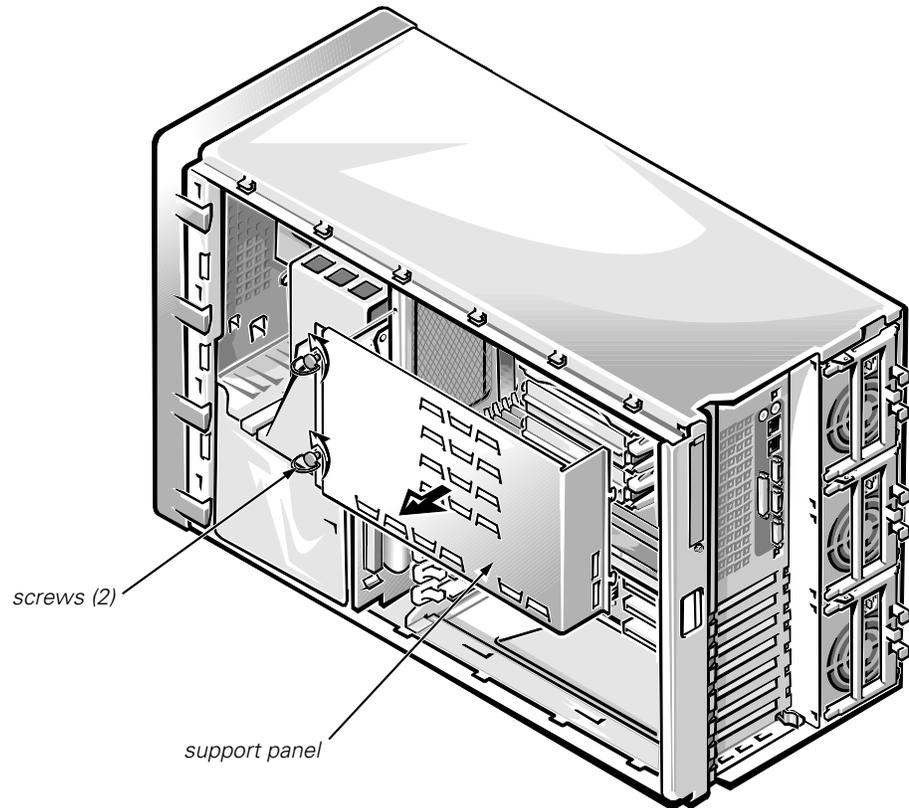

Figure 4-20. Interior Support Panel Removal
- 1. Loosen the thumbscrews on the left side of the panel (see Figure 4-20).**